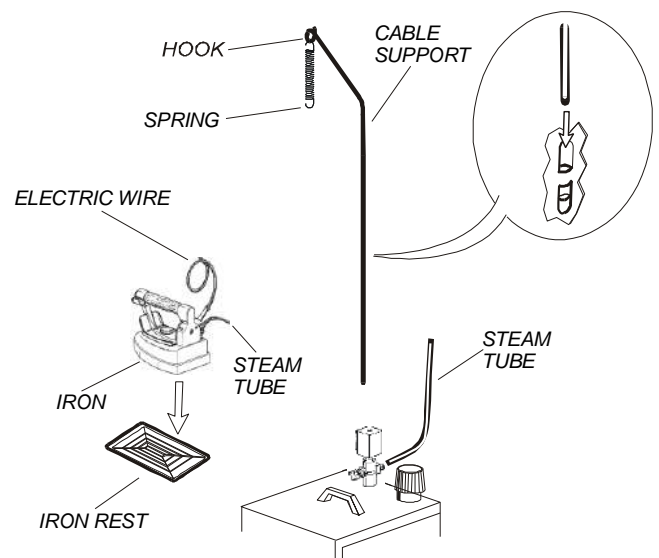

Fig. 1
2. Remove SATURNINO PORTABLE MODEL from the box, assemble the cable support and insert it deep into the special support holder placed on the back side of the generator (fig. 1).
3. Fix the spring to the support hook, avoiding entwining (fig. 1).
4. Place the iron on the rubber iron rest supplied with the machine (fig. 1).
3. During the ironing, pay attention to put the iron on its rubber rest (fig. 1).